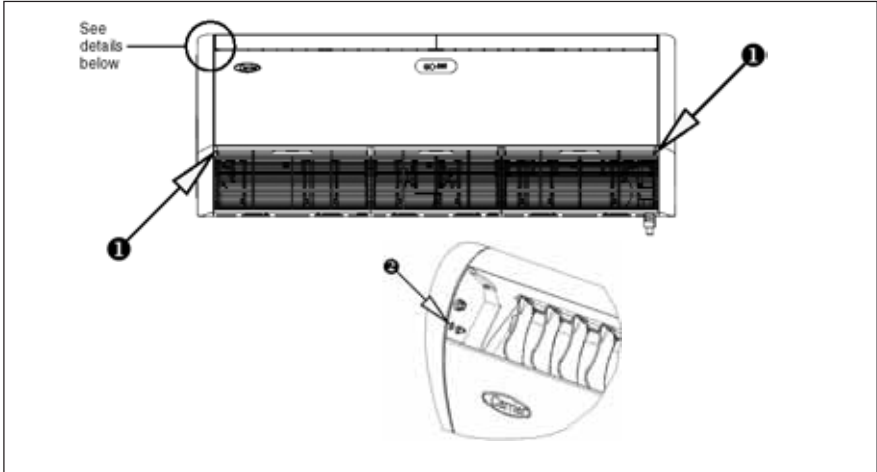

Fig. 9 - Position of the screws for side removal
- Fig. 9 shows the position of the screws to be removed to disassemble the plastic sides of the indoor unit.
- To access the two screws indicated by the number ①, it is necessary to remove the air filters from the ends.
- To access the screw shown in the detail (present on both sides), with the number ②, it is necessary to lift up the horizontal deflector.